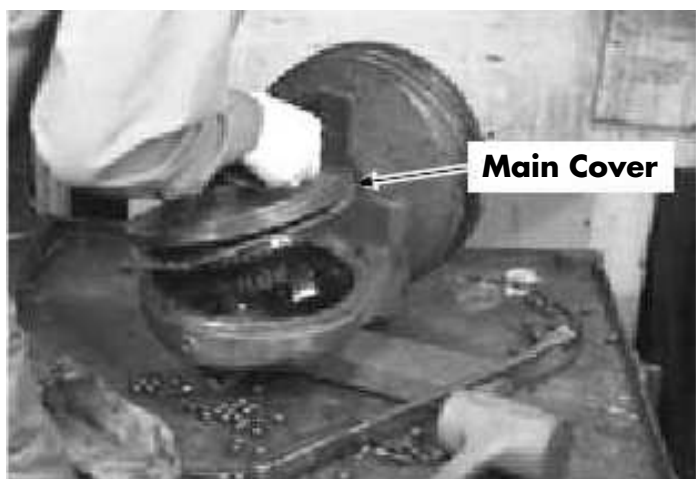

Figure 7-104. Cover and Output Shaft Removal
- Remove the main cover and output shaft assembly. See Figure 7-104.